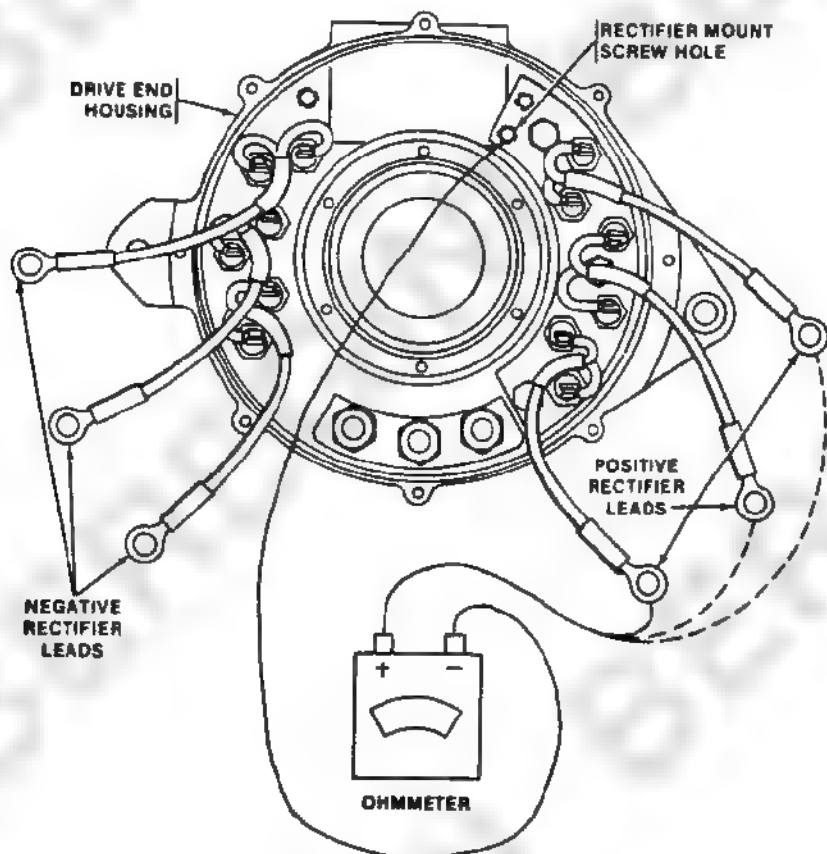

Figure 2-3. Open Positive Rectifier Test.
Step 5. Check for open positive rectifiers. Connect ohmmeter to each of the three positive rectifier leads in accordance with figure 2-3.